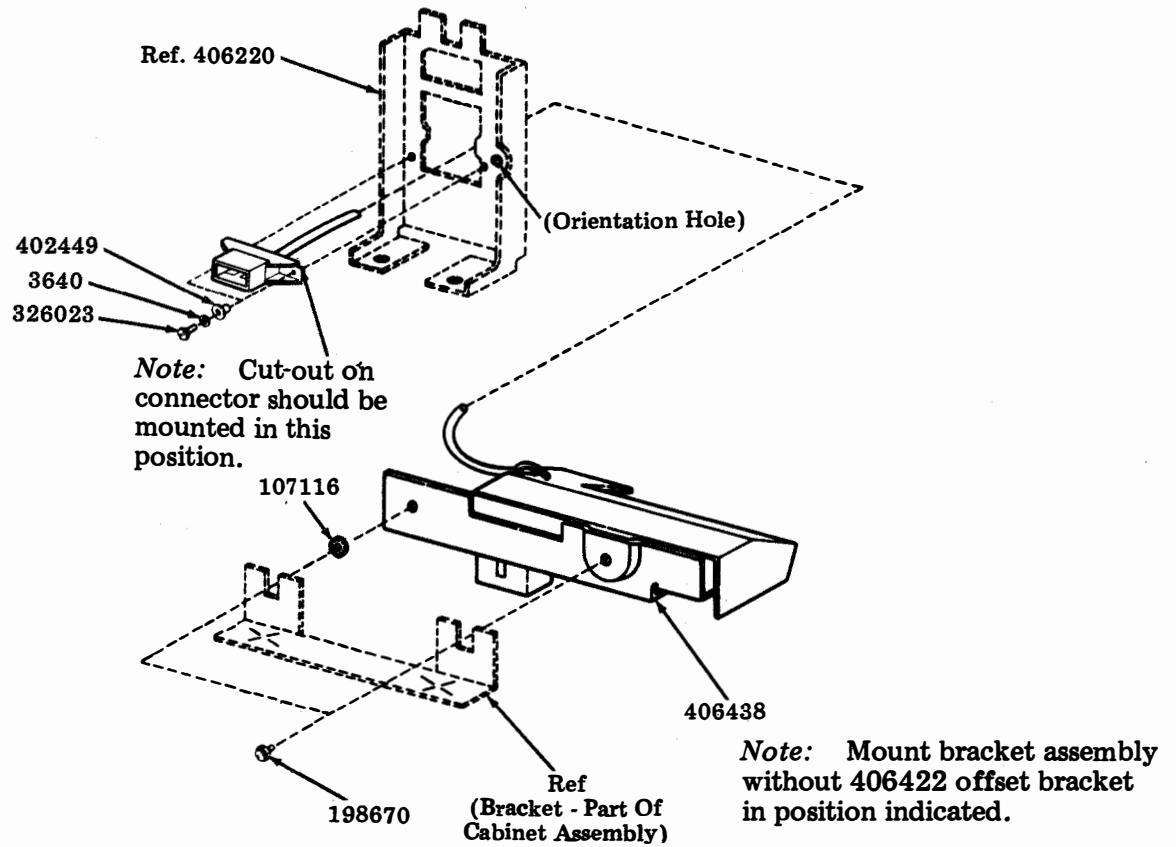

Fig. 3
3.03 Installation of 406370 modification kit into a 45CAB702 cabinet can be done by following Fig. 3.
Note: Parts included in 406370 modification kit that are not shown in Fig. 3 are not required.